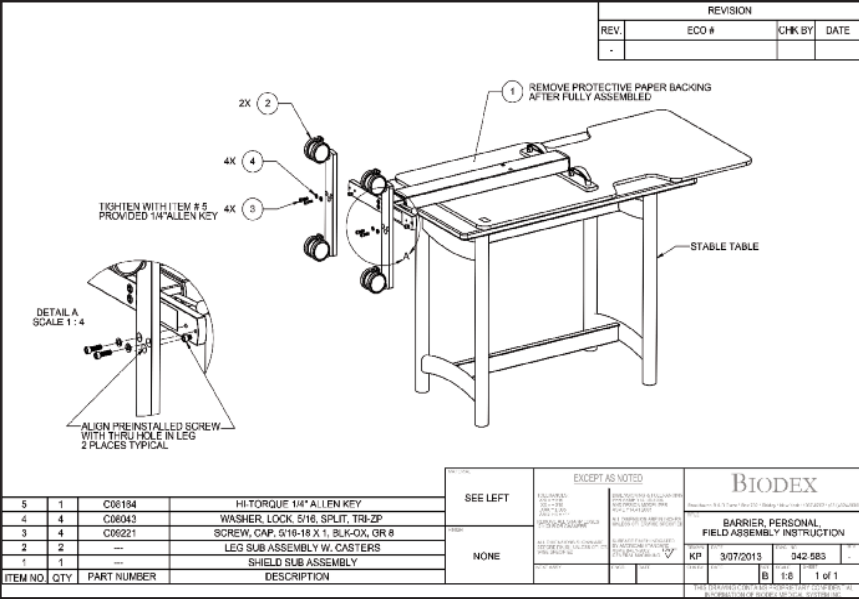

Figure 2.
- c. One bag containing the parts numbered 3-5 on schematic drawing (See Figure 2.)